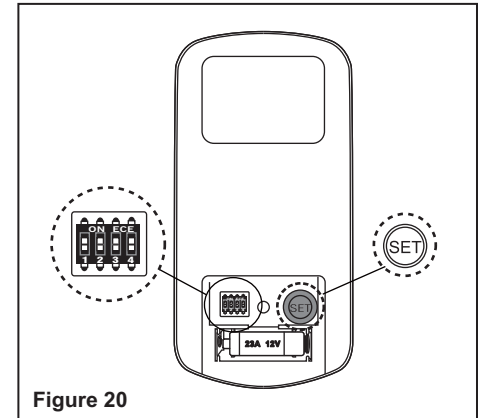

Figure 20
a) Select desired frequency from the transmitter. The dip switches can be set to 16 different combinations. (Fig. 20)
b) From the back of the transmitter, with the fan's power off, restore power to the fan. Press and hold "SET" button for about 5 seconds and release. If optional light kit is installed, the light kit will flash twice and the signal light on the hand held transmitter will come on when the button is pressed. The fan has completed the pairing process with the remote control and is ready for use. (Fig. 20)